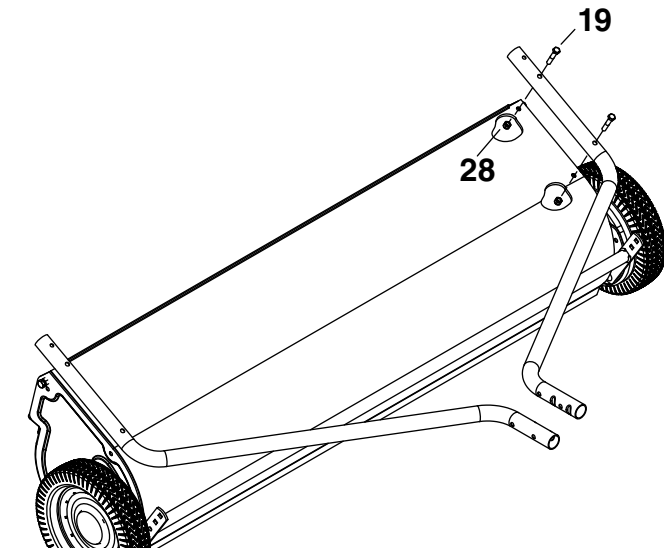
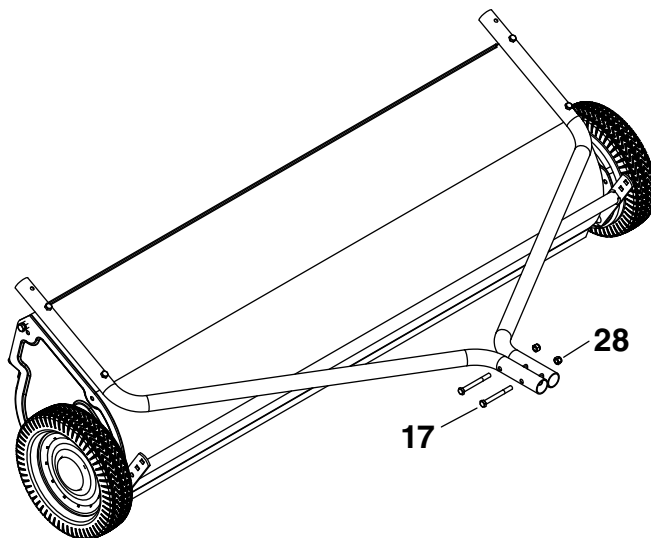

FIGURE 1
FIGURE 2
- Assemble the hitch brackets to the hitch tubes using two 5/16" x 2-1/4" hex bolts (18) and 5/16" nylock nuts (28). If your tractor drawbar has 10" or more ground clearance, place the bent hitch bracket on top. If it has less than 10" clearance, place the straight hitch bracket on top. **Do not tighten yet.**
- **Tighten** all loose bolts and nuts as follows: Tighten the bolts and nuts assembled in figure 1. Tighten the bolts and nuts assembled in figure 2.
- Assemble the hitch pin (36), two 3/4" spacers (32) and the large hairpin cotter (33) to the hitch brackets.